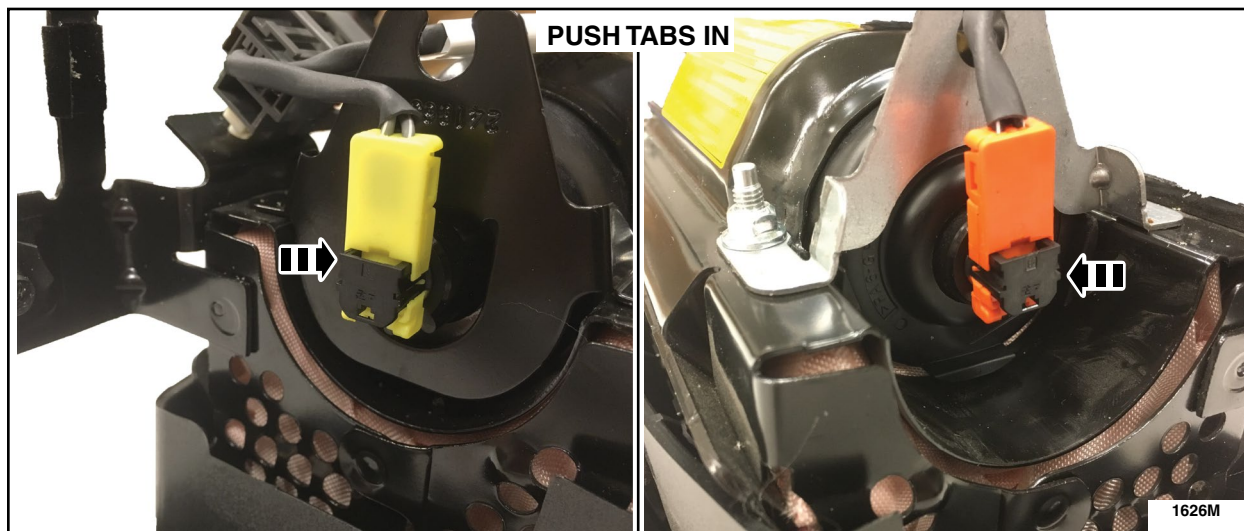

FIGURE 12
14. Insert the inflator wiring harness connector tabs. See Figure 12.